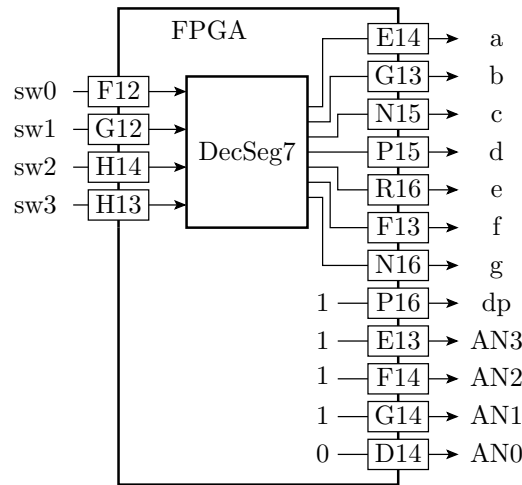

Figure 3: Test circuit for the seven segment decoder
Test the same function »DecSeg7« by embedding it in the circuit in figure 3, synthesize the circuit and downloading it into the FPGA.
- presentation of the simulation and the correct operation of the final downloaded circuit in figure 3